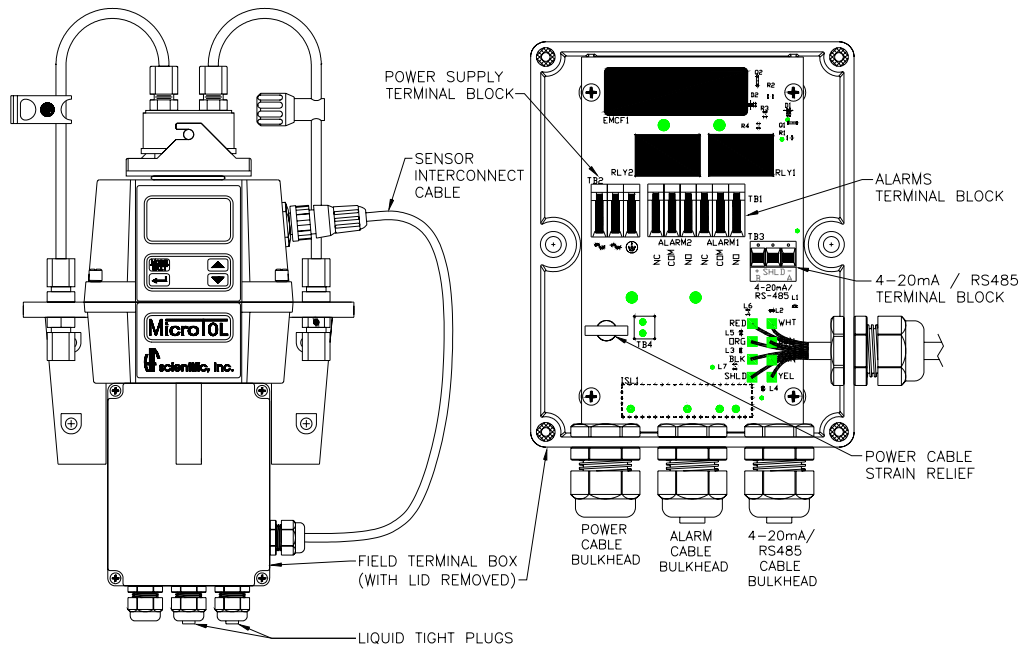

Figure 5: Electrical Connections for the Instrument
All of the electrical connections to the instrument are made through the field terminal box, which should be located under the sensor section of the instrument. The connections are labeled within the terminal box and are self-descriptive (see Figure 5). Please follow all local and government recommendations and methods for installation of electrical connections to and between the instrument and other peripheral devices.
3.3.1 Power: The instrument is equipped with a 90-250 VAC, 47-63 Hz switching power supply; please verify that the line voltage falls within these specifications. It is recommended that a circuit breaker be placed prior to the power connection to allow for service. While making your connections, refer to Figure 5. **The Micro TOL is not supplied with a power cord.**